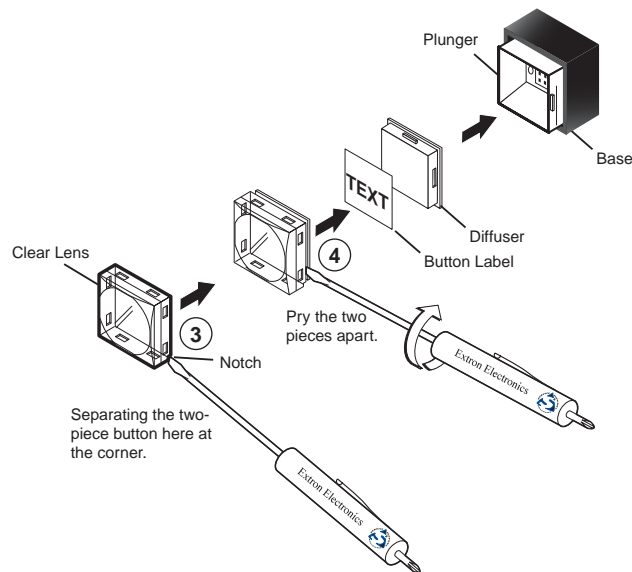

Figure 9. Replacing a Button Label
The button assembly consists of a clear lens cap, the button label, and a white diffuser (see the illustration at right and figure 9 on the next page).
2. Remove the button assembly by inserting a small, flat-bladed screwdriver between the button base and the diffuser to gently pry the button assembly off the button plunger, as shown in the illustration at right (②).
3. Locate the small corner notch on the lens cap, and slide the screwdriver between the lens cap and the diffuser (see ③ in figure 9.)
4. Using a rotating motion of the screwdriver, carefully pry the two pieces apart (see ④ in figure 9.)